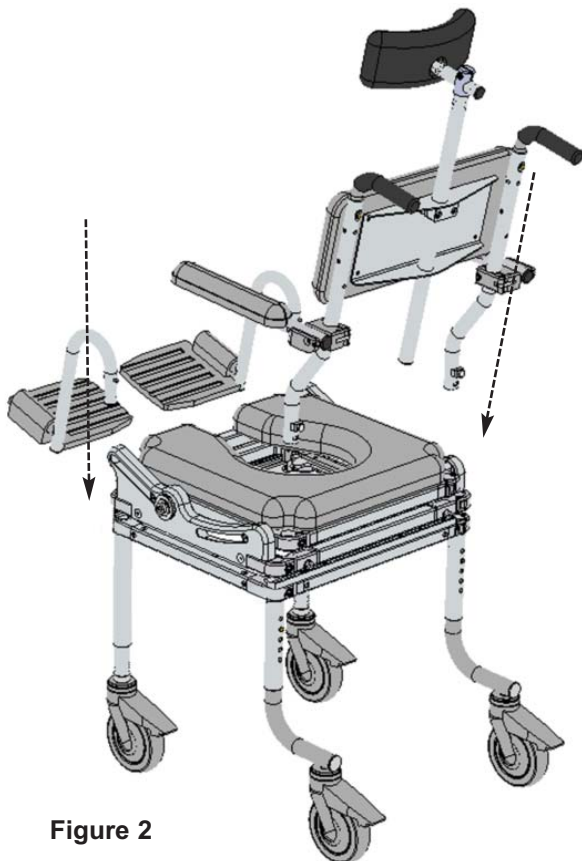

Figure 2
**D** Turn the chair right side up and install the backrest assembly. Slide the two backposts into the back of the seat frame and tighten the two socket head cap screws using yellow T-handle Allen wrench (Refer to Figure 2).
**E** The footrests drop into the front corners of the tilt frame. Tighten the two socket head cap screws using yellow T-handle Allen wrench (Refer to Figure 2).